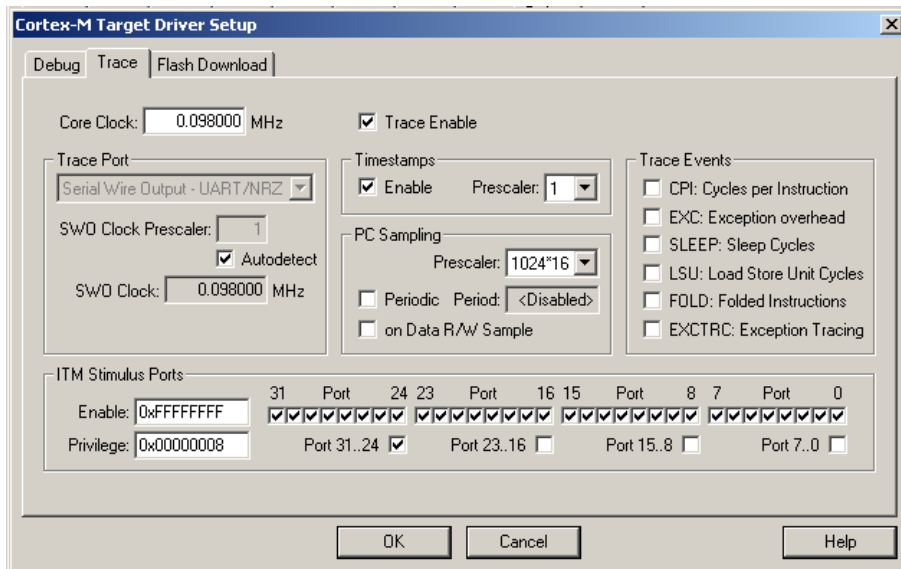

Figure 6: Trace Configuration window.
In order to see the Serial Wire Viewer features, the Trace must be configured as in Figure 6.
- 5) Click on the Trace tab to open Figure 6.
- 9) Unselect Periodic and on Data R/W Sample. Window will look like Figure 6.
You select various SWV elements in Figure 6. It is important to note that it is easy to overload the single wire Serial Wire Output (SWO) pin. The general rule is to activate only those features you need.